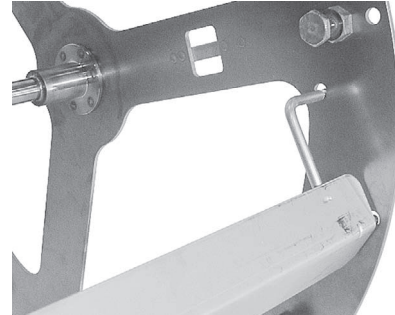

Fig. 13
2. Fit notched end of V-spit into appropriate holes on drive side of rotor (Fig. 13).